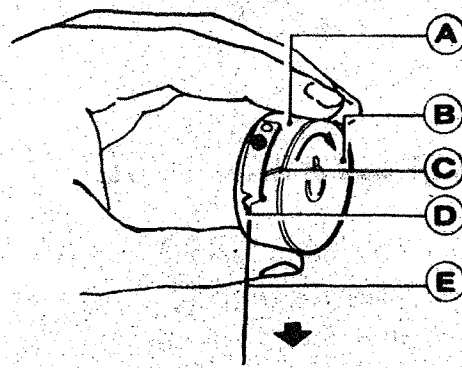

Fig. 19
6. Inserting the bobbin (Fig.19)